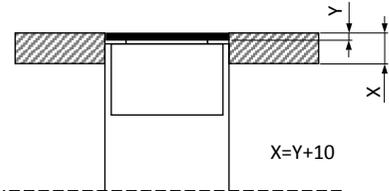
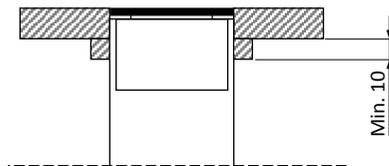

Fig 5
Fig 6
2. The Zaira can be installed flush with the worktop if using the Stainless steel or black glass finish (Fig 5) or it can be installed lower to allow the same worktop material to be used for the finish (Fig 6).